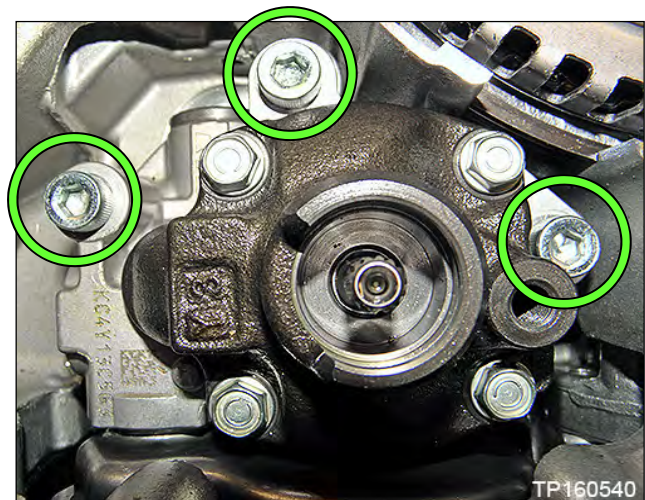

Figure 51
- b. Remove the three oil pump Allen-head bolts, and remove the oil pump (Figure 51).